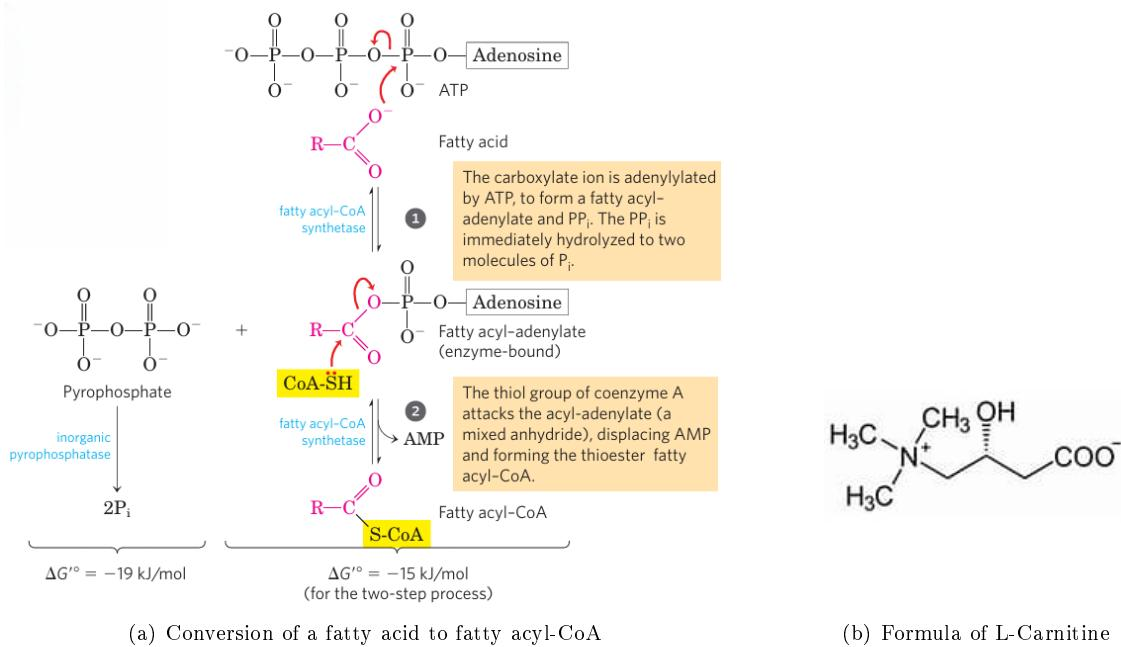

Figure 26:
Following this step **fatty acids** can be **activated (bound to CoA, see. fig. 26(a))** and transported to the mitochondrial matrix of cells. In the mitochondrial matrix they iteratively undergo a series of **4 reactions** that shorten the acyl chain by 2 carbons and release acetyl-CoA (that can feed in the TCA cycle)
Fatty acyl-CoA synthetases have a **two phase mechanism** (see fig. 26(a)):
**Definition 1.15 (Carnitine).** Carnitine (see. fig 26(b)) is a quaternary ammonium compound. Carnitine forms a temporary conjugate with acyl groups (as acyl-carnitine), enabling them to cross the inner mitochondrial membrane via the carnitine shuttle system.